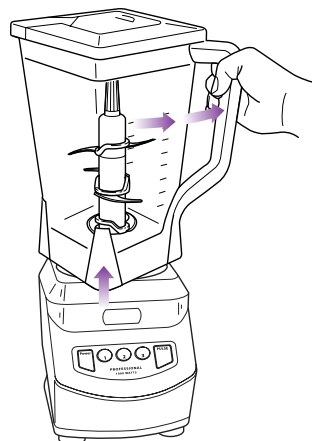

Fig. 6
- 8 To remove the pitcher, press the power button to turn the appliance off. Wait for the blades to stop moving before removing. (Fig. 6)